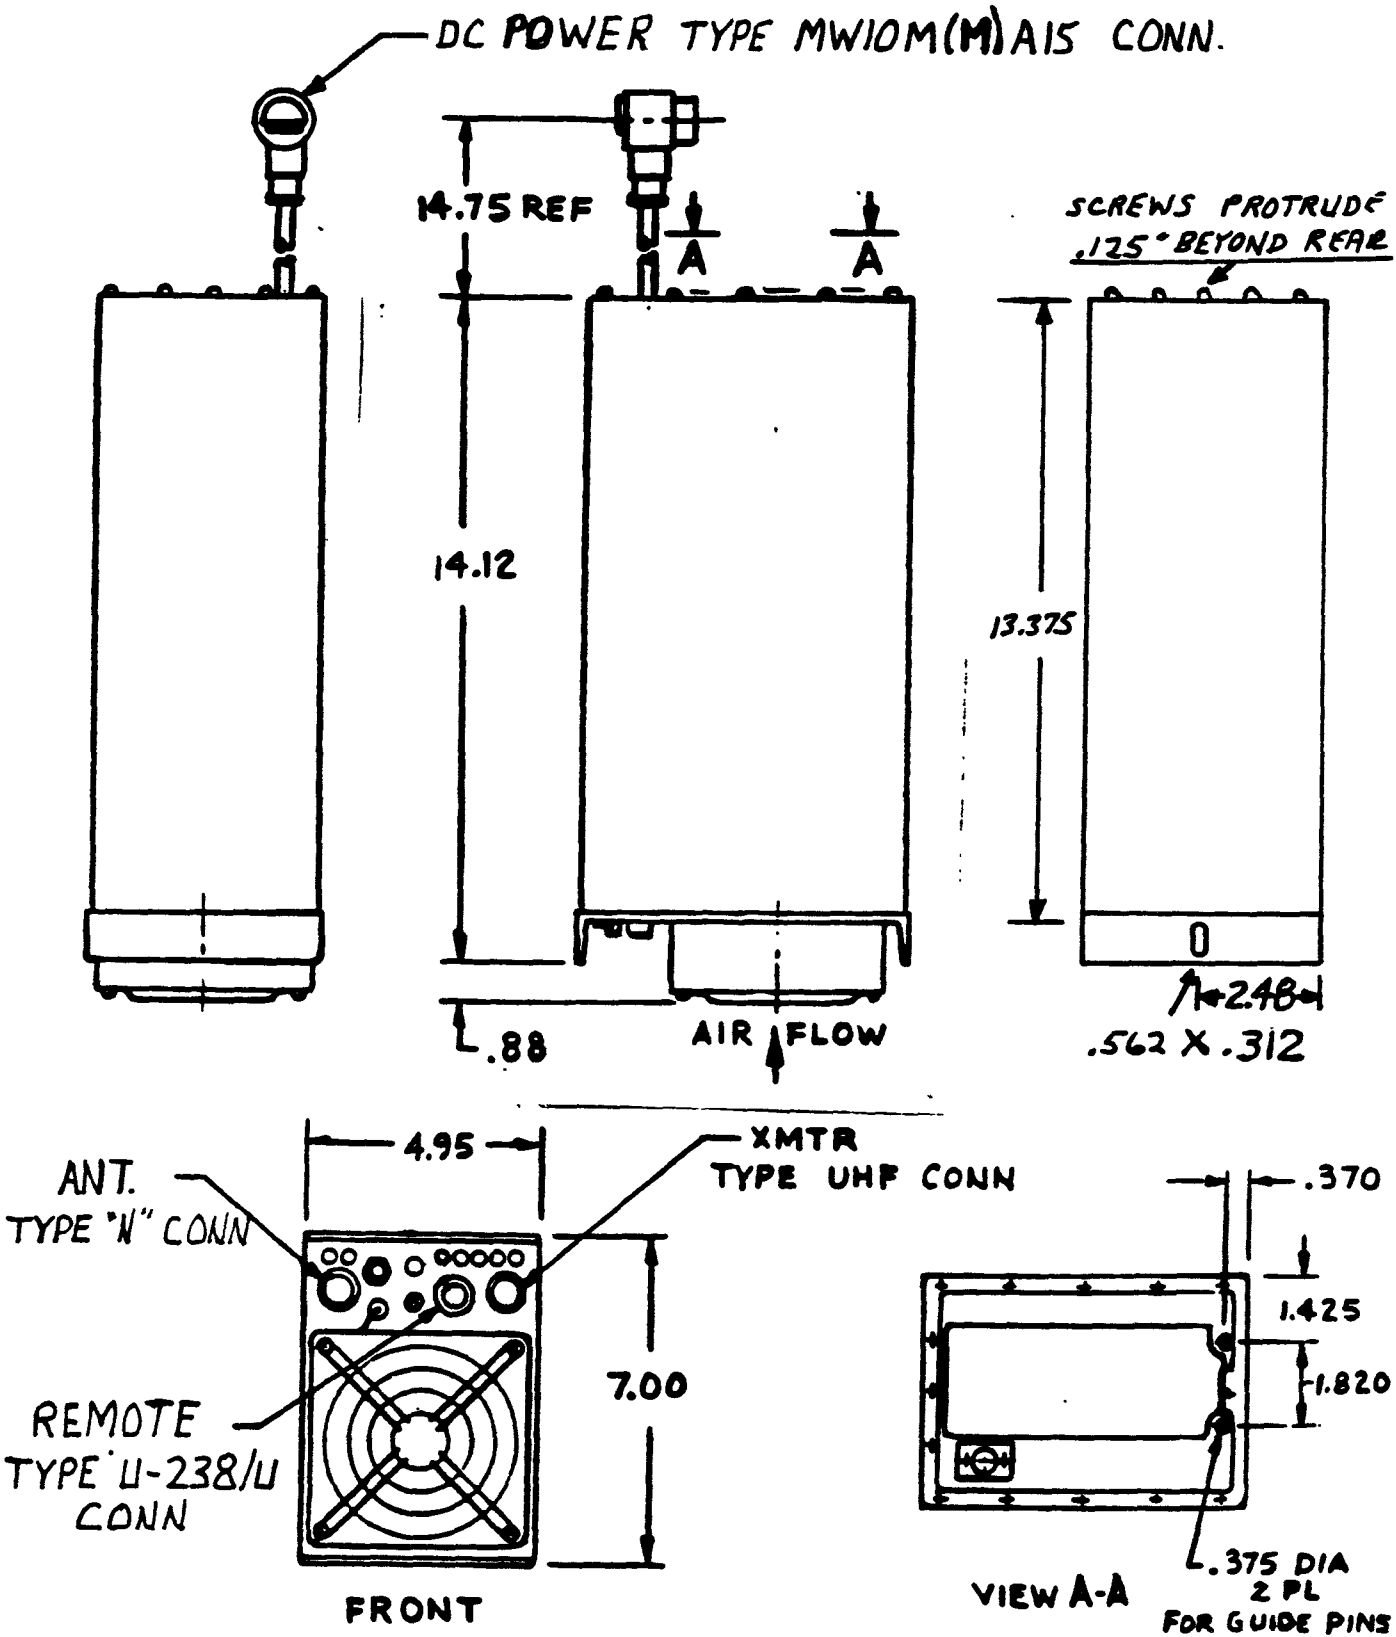

FIGURE 3-1
- 3-5 Dimensions of the unit and location and size of the mounting holes are shown in Figure 3-1.
- 3-7 The Power Amplifier is normally supplied with an MW 10M (M) A for power connection. This plug is connected as follows: